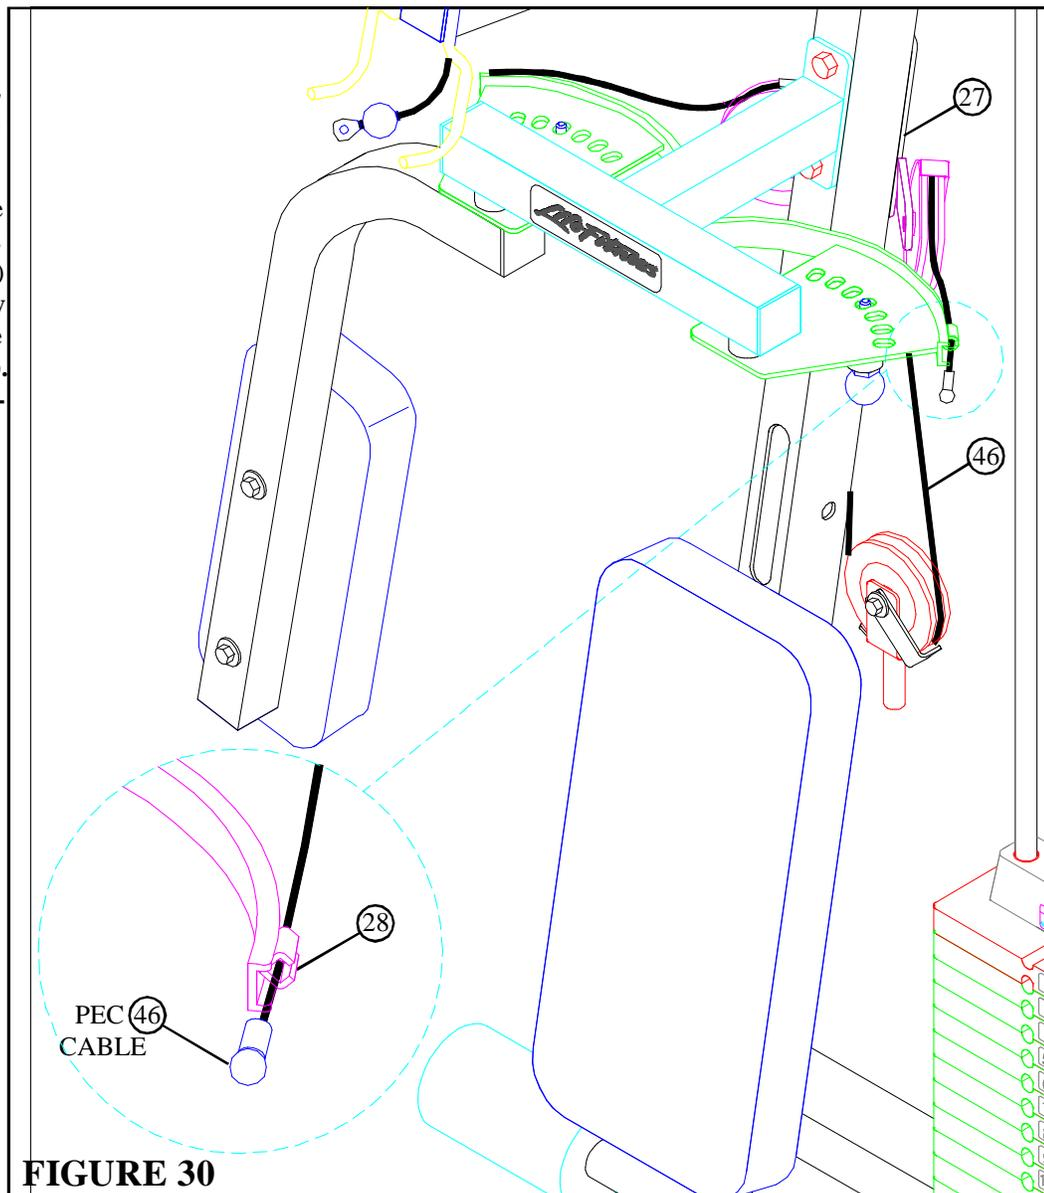

FIGURE 30
- Slide the ends of the PEC DEC CABLE (46) into the bushings on the PEC CAMS (28) as shown on FIGURE 30.
- Lay the PEC DEC CABLE (46) over the pulleys and under the cable retaining clips in the CENTER PULLEY BRACKET (27) as shown in FIGURE 30. (**NOTE: Securely tighten the pulley connections in the CENTER PULLEY BRACKET (27). The cable retaining clips should be at approximately a 45° angle.**)